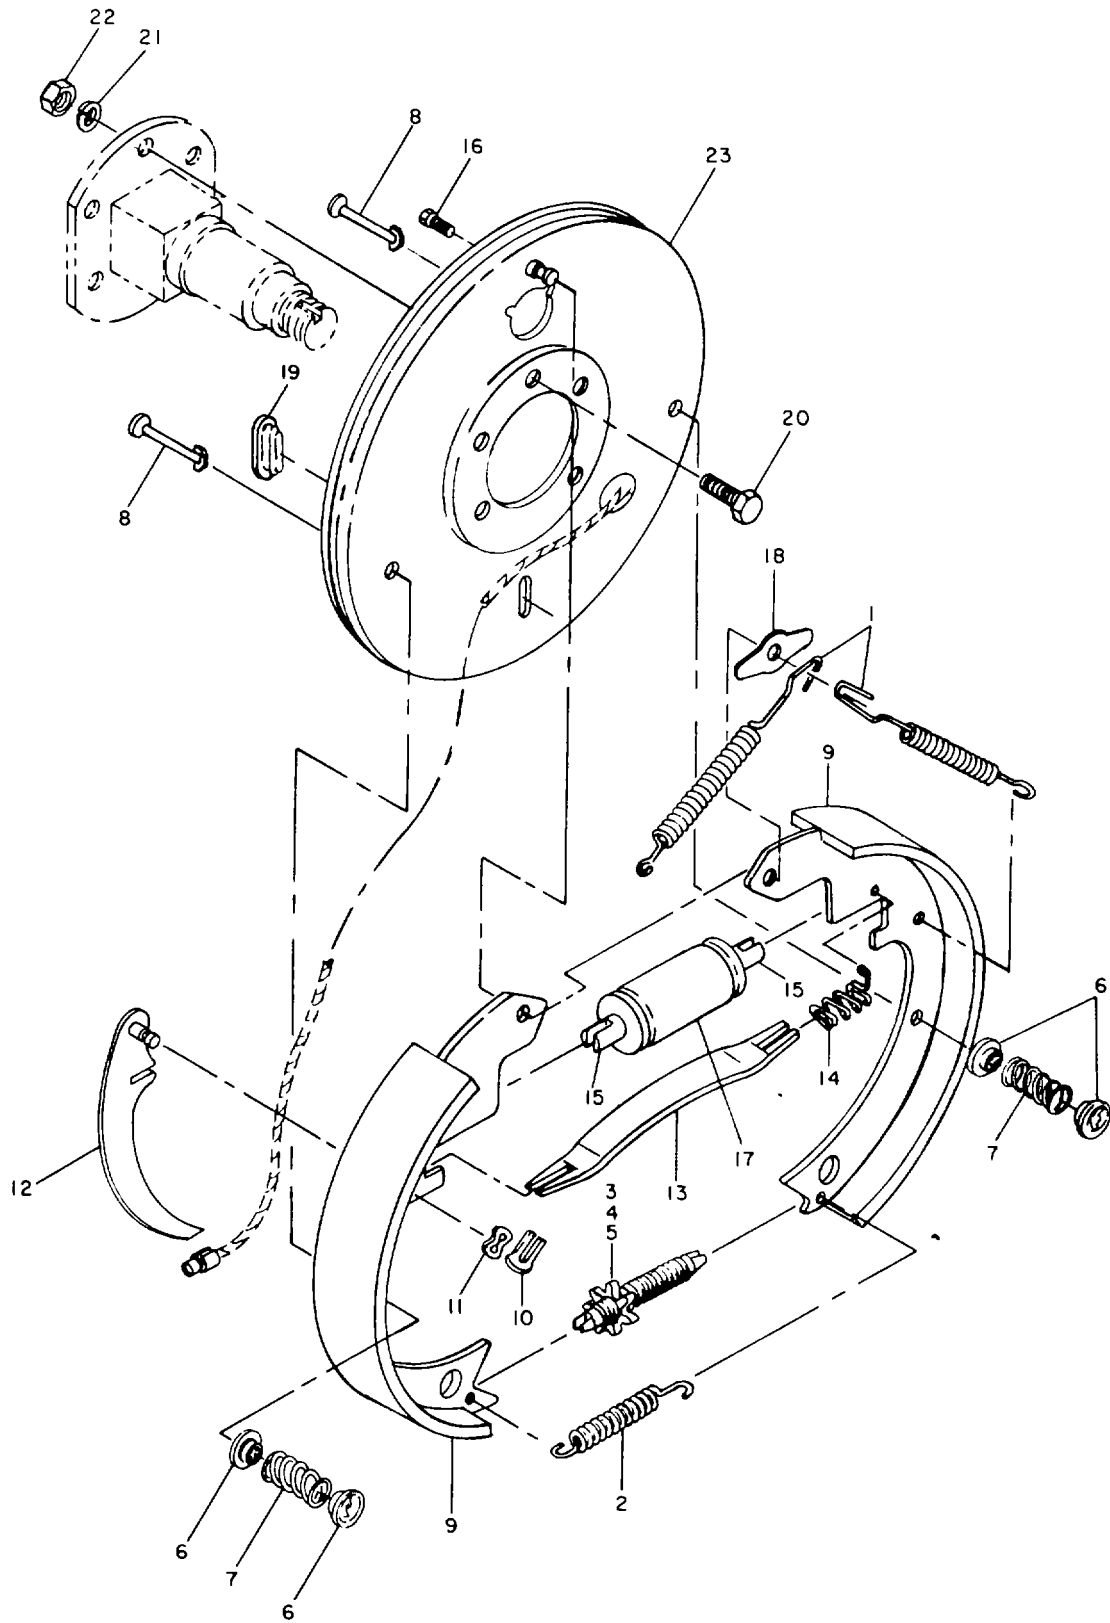

Figure 4-7. Hydraulic brakes (used on front transporter assembly only)
- (1) Remove shoe return springs (1, fig. 4-7), using suitable brake tool.
- (2) Remove equalizer lever (13) and equalizer lever spring (14).
- (3) Remove hold-down cup (6) and hold-down springs (7).
- (4) Remove adjusting assembly spring (2).
- (5) Remove pivot nut (3), socket (4), and adjusting screw (5) as an assembly.
Legend for fig. 4-7:
If left-hand and right-hand wheel mount shock-absorbing spring assemblies (16 and 17, fig. 4-9) are removed with the hydraulic brakes (fig. 4-7) in place, disconnect flexible hoses (2, fig. 4-11) from wheel cylinders (17, fig. 4-7).